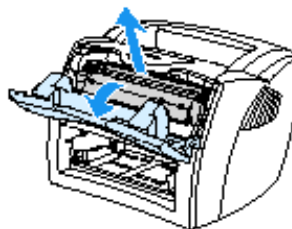

Figure 39. Toner Cartridge Door
2. Open the toner cartridge door and remove the toner cartridge. Figure 39 shows the printer toner cartridge door open and the direction to remove the cartridge from the printer.